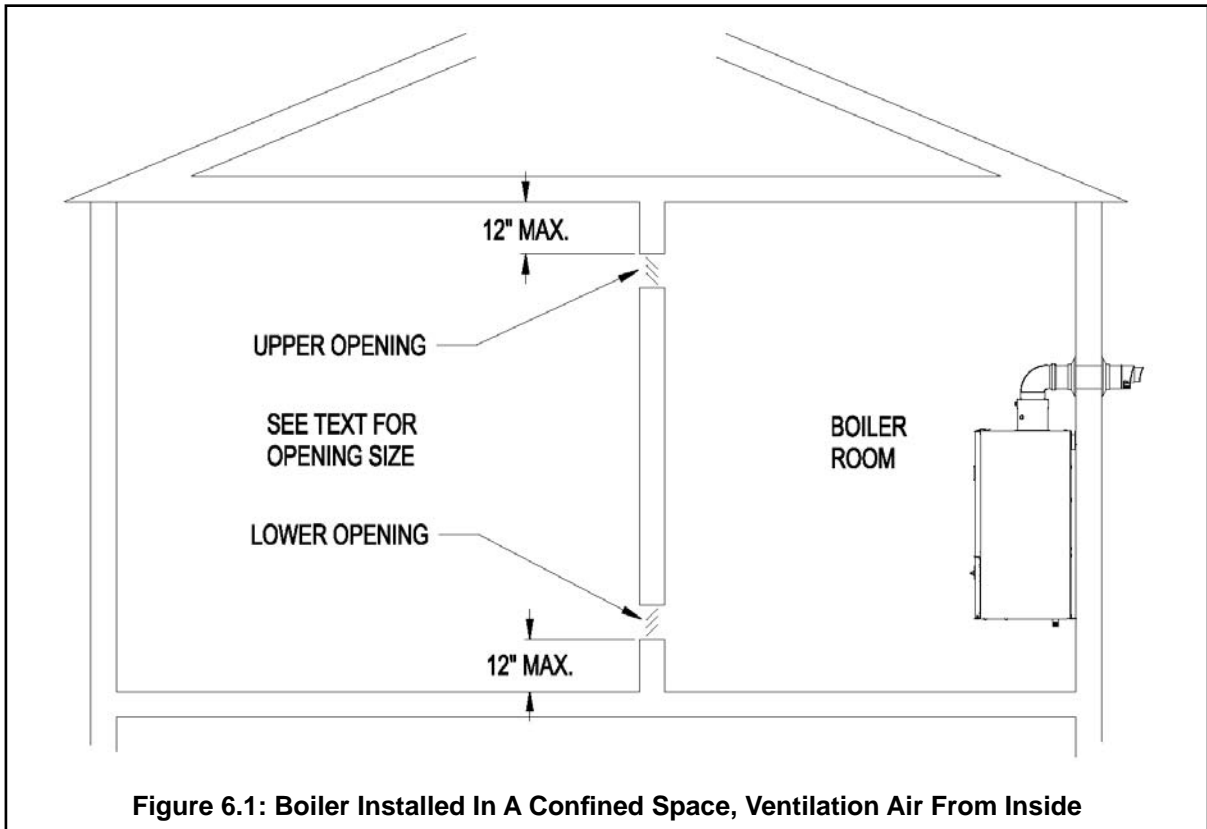

Figure 6.1: Boiler Installed In A Confined Space, Ventilation Air From Inside
Step 2a: If the boiler is to be placed in a confined space, provide two openings into the boiler room, one near the floor and one near the ceiling. The top edge of the upper opening must be within 12" of the ceiling and the bottom edge of the lower opening must be within 12" of the floor (Fig 6.1). The minimum opening dimension is 3 inches.